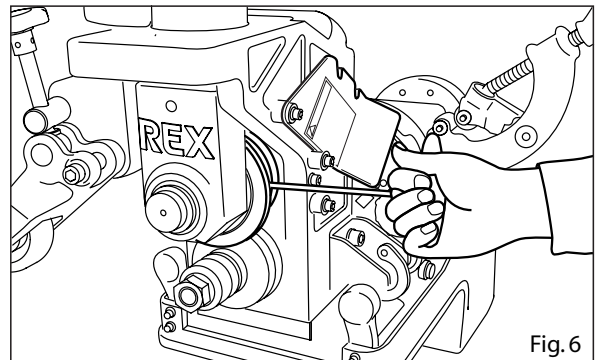

Fig. 6
- 2) Remove the upper roller by loosening the fitting screws on the upper roller and pulling out the roller shaft. (Fig. 6)